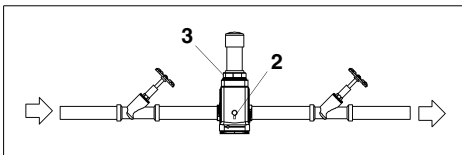

Fig. 8: Cartridge exchange II
2. Open the discharge valve (2) counterclockwise so that the pressure remaining in the device can escape (see fig. 8).
3. Unscrew the union nut (3) at the phosphate cartridge counterclockwise.